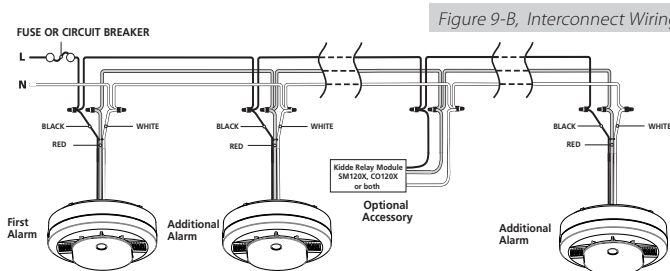

Figure 9-B, Interconnect Wiring Diagram
- Figure 9-B illustrates interconnection wiring. Improper connection will result in damage to the alarm, failure to operate, or a shock hazard.